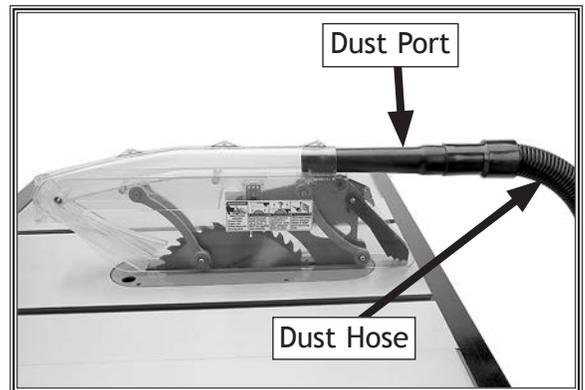

Figure 52. Dust port and dust collection hose installed on blade guard.
- Connect dust collection hose to blade guard as shown in **Figure 52**. For more information, see **Dust Collection** on **Page 29**.